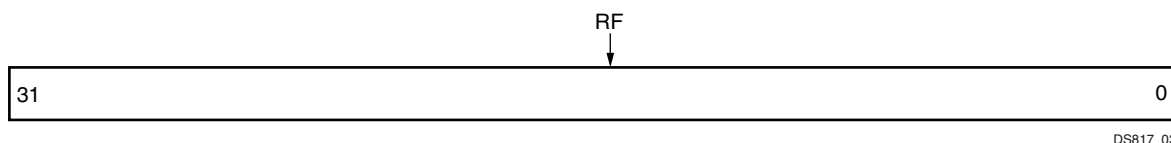

Figure 2-2: Read FIFO (RF)
The Read FIFO (RF) register shown in Figure 2-2 is a 32-bit Read FIFO. The bit definitions for the Read FIFO are shown in Table 2-6.